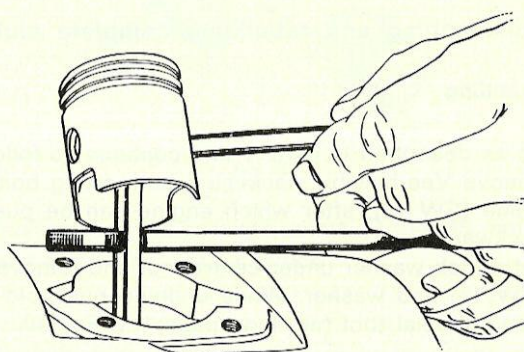

fig. 14
- carefully lever rod up or down as the case may be, a fraction at a time (fig. 14), until con-rod angle is correct.